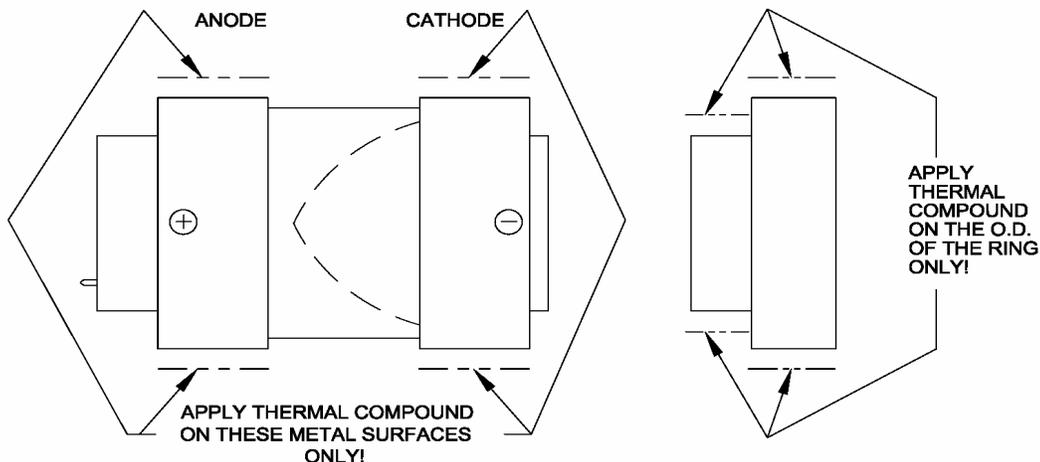

Fig 3. Thermal Compound Application
the lamp. See Figure 3. Insert the lamp into the anode heatsink, line up with hole pattern on heat sink and gently tighten the three (3) screws until fully seated to secure heatsink to lamp.
8. Apply a light coat of the thermal compound (supplied with the lamp) on the collar (cathode side -) of the lamp. Insert the cooling ring into the collar (cathode side -) of the lamp. Apply a very thin coat of thermal compound to the collar and outside of the cooling ring. See Figure 3.